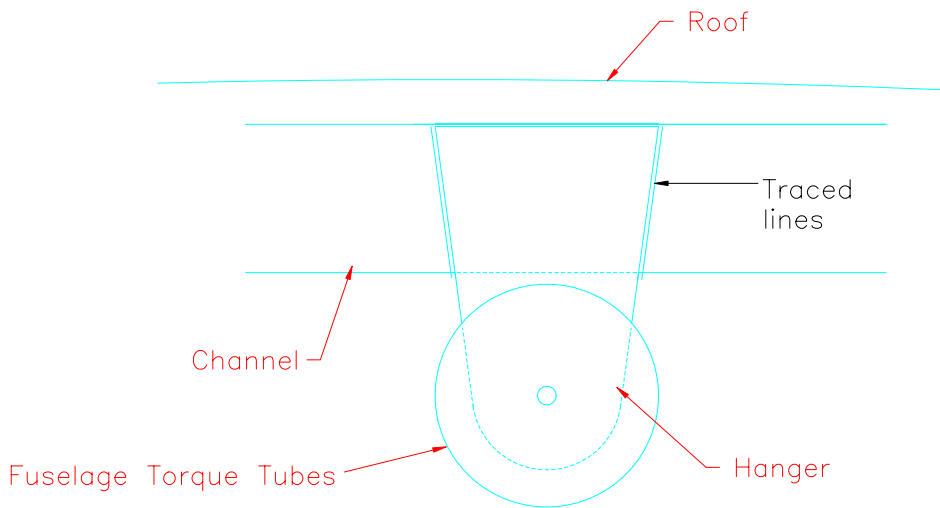

Figure 15.8.9
18) Trace the position of the hanger onto the channel. Figure 15.8.9.